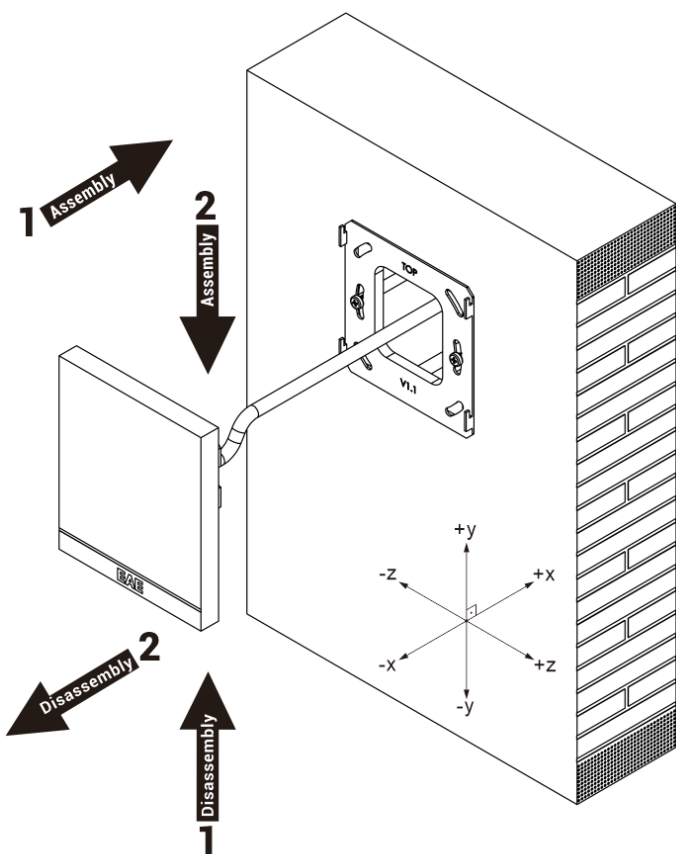

Fig. 3
- Action 2: The upper plane of the bulge on the back of the device is aligned to the upper plane of the hole position of the metal plate, and attention should be paid to the shrapnel installation hole of the metal plate. See Fig.3;
- Action 3:After finishing action 1 and action 2, pull the device down (Fig.3), then the installation is finished.
4. After finishing the installation, if disassembly is required, please perform this step: Push the device upward, then pull it out toward the horizontal direction when hear a buckle sound or when the device can no longer be moved, then the disassembly is finished as shown in Fig.3